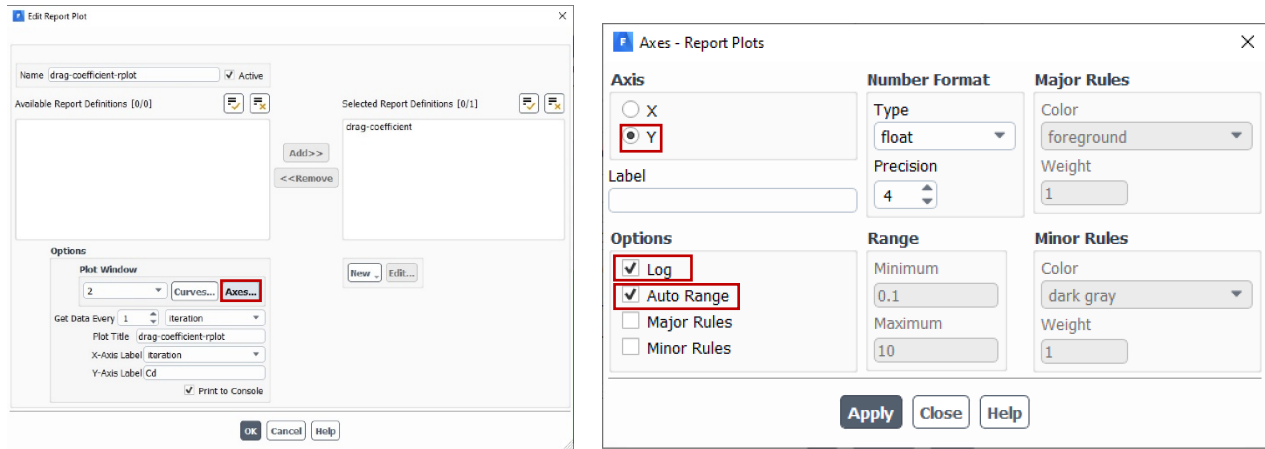

Figure 17. Setting the Axes Properties on the drag coefficient report plot.
3.5.2. In the **Outline View** pane, under **Solution**, expand the **Monitors** subheading, and then expand the **Report Plots** sub-subheading. Double-click on “drag-coefficient-rplot”. The **Edit Report Plot** popup window will appear, as shown in Figure 17 (left image).
3.5.3. In the **Edit Report Plot** popup window, under the Options > Plot Window box, click **Axes...**. A new popup window called **Axes – Report Plots** will appear, as shown in Figure 17 (right image).
3.5.4. In the **Axes – Report Plots** popup window, manually set the Y-axis range, as shown in Figure 17 (right image):